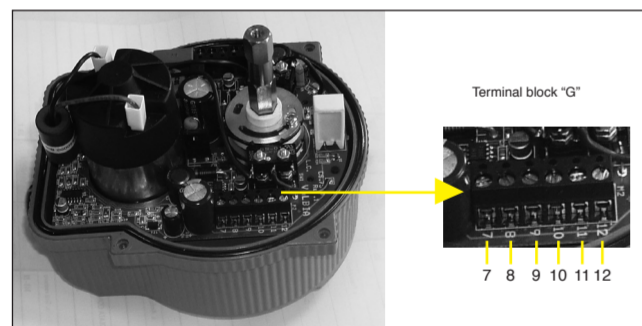

Fig.4 View of terminal block "G" to connect to auxiliary signals
4.4 Connection of signal auxiliary wires to the limit switches (fig.4)